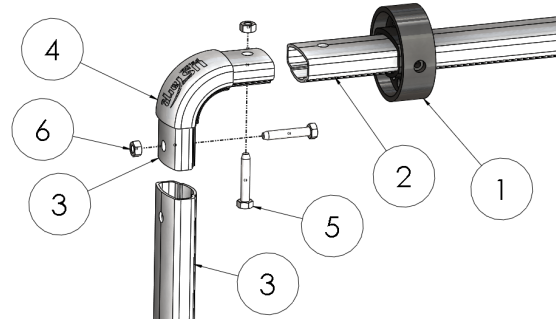

Figure 2.11
Slide one tarp centering flange (1) onto the top crossbar (2). Slide the pocket end of the tarp over the top crossbar. Slide the 2nd tarp centering flange onto the crossbar. Slide top crossbar (2) and side arm (3) over solid corner bracket (4). Secure with supplied bolts (5) and nuts (6). Repeat for opposite side. Top crossbar (2) may need to be cut to length to ensure both side arms are vertically aligned with sides of dump box. Position top crossbar at its resting position at the rear of the dump box. Ensure both sides are at rest in the proper position, and the bar is aligned evenly with the rear of the tailgate. Tighten set screws (3) on both sides (Figure 2.11).